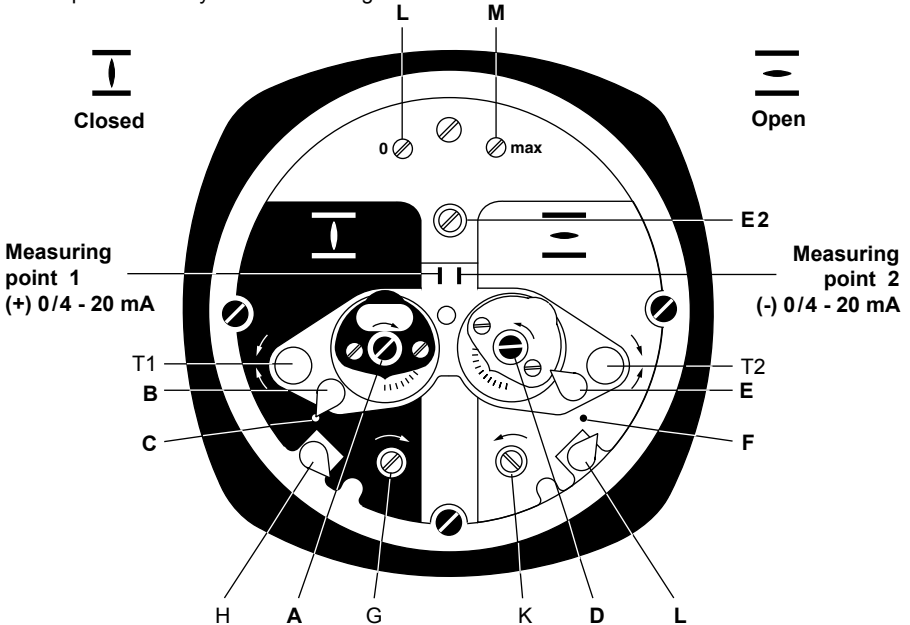

Fig. 10 Control unit diagram
(AR and ARM models only, see Fig. 10):
- Connect ammeter for 20 mA to measuring point (1) and (2) (Fig. 10). Refer to manufacturers instructions, for further connection details